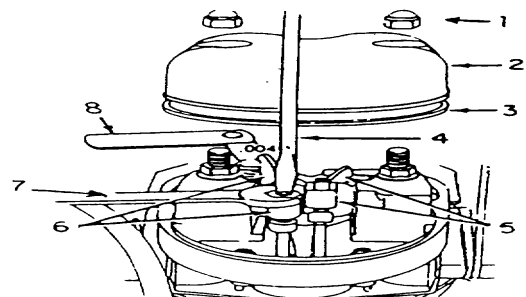

Figure 4-6. Diesel Engine Valve Adjustment
- (3) Remove two acorn nuts (1, Fig. 4-6). Remove valve cover and gasket (2 and 3, Fig. 4-6).
- (4) Rotate engine until the exhaust valve rocker arm (6, Fig. 4-6) is fully open.
- (5) Check clearance between intake valve stem and intake rocker arm (5, Fig. 4-6). Loosen locknut and adjust valve to rocker arm clearance as required to obtain .004" (.1mm) clearance.
- (6) Rotate engine until intake valve rocker arm (5, Fig. 4-6) is fully open.
- (7) Check clearance between exhaust valve stem and exhaust rocker arm (6, Fig. 4-6). Loosen locknut and adjust as required to obtain .004" (.1mm) clearance.
- (8) Clean valve cover (2, Fig. 4-6) in mineral spirits. Inspect valve cover and gasket (2 and 3, Fig. 4-6) for damage. Replace damaged parts.
Assemble valve cover and valve cover gasket (2 and 3, Fig. 4-6) to cylinder head. Secure with two acorn nuts (1, Fig. 4-6).